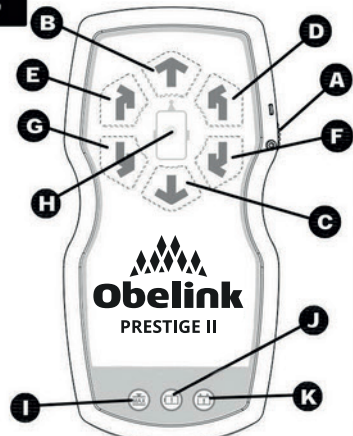

Fig.9
Fit the end socket of the engagement tool (6) onto the engagement spindle (Fig. 9) on the right or left hand motor unit. This only needs to be done on one side of your caravan since the other side will automatically follow via the cross actuation bar.
Disengage the drive rollers from the tyres. Fully disengage the rollers by turning the handle on the engagement Spindle (Fig. 9) until it turns no more without excessive force. The pointer of the traction indicator label (Fig. 11A) will be in the beginning of the yellow area.